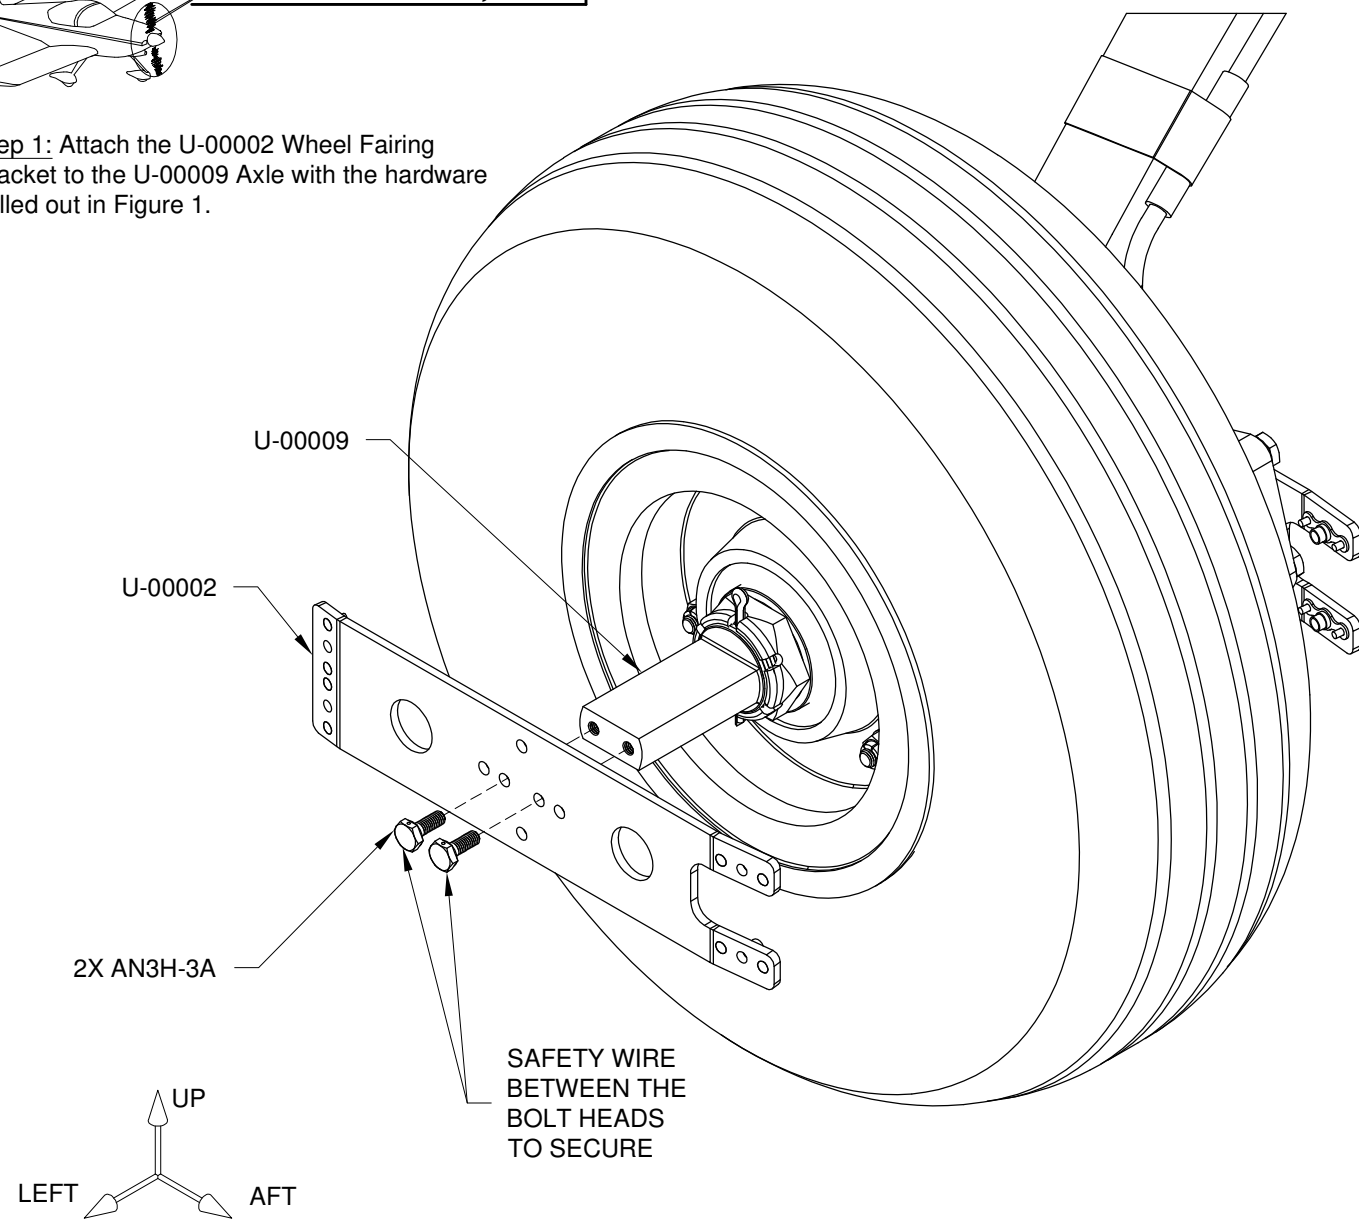

FIGURE 1:
Step 1: Attach the U-00002 Wheel Fairing Bracket to the U-00009 Axle with the hardware called out in Figure 1.